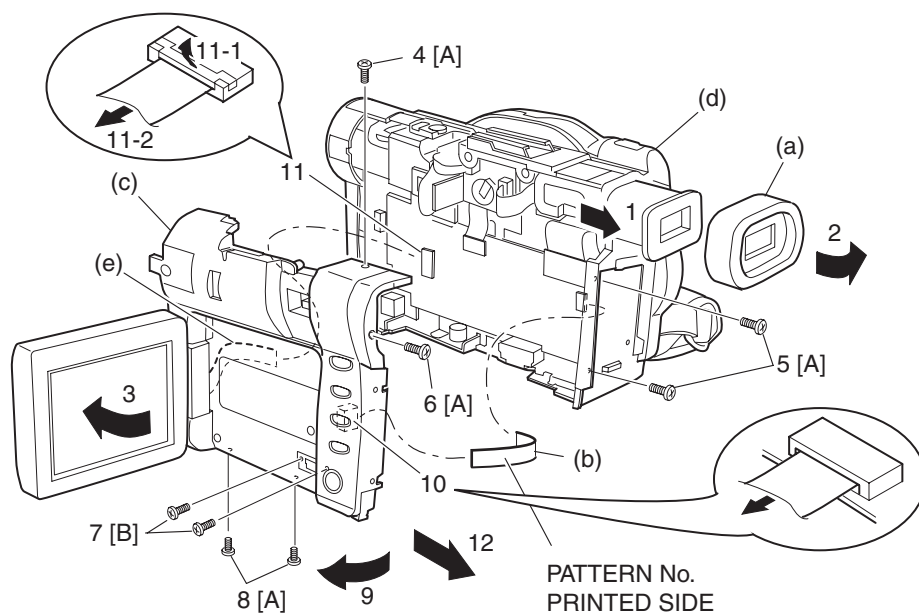

Fig. 5-3-3 Eyecup, SAF Circuit Board, and L Block
(3) Eyecup, SAF Circuit Board, and L Block (Figs. 5-3-3, 5-3-4)